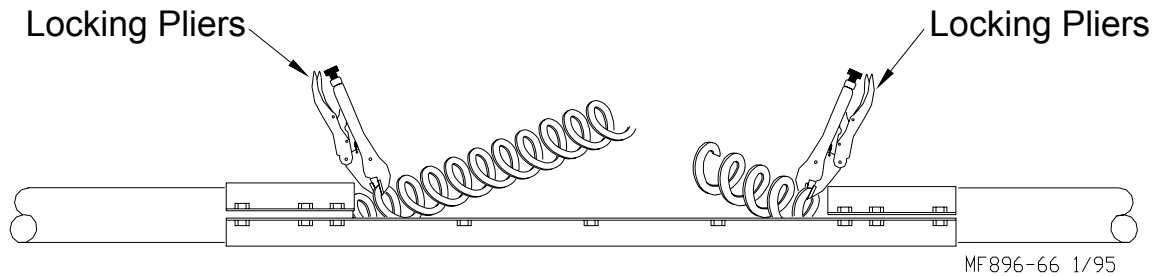

Figure 33. Auger Service Section
6. Use locking pliers to hold one end of the Auger in place while stretching the Auger. See **Figure 33**.
10. Pull another 18" (450 mm) of Auger and install another set of locking pliers to keep the Auger from springing back into the Auger tube. See **Figure 33**.